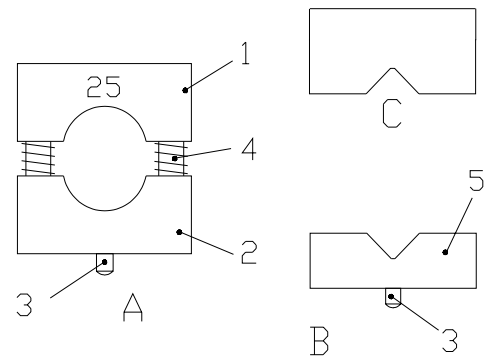

Fig. 17
To cut round specimens, the insert for round specimens (fig. 17.A) with defined diameters of 6, 15 and 25 mm (special sizes on request) or the V-insert (fig. 17.B) can be clamped into the standard specimen clamp.
- To fasten the V-distance piece (fig. 17.C) on the fixed jaw (fig. 16.2) of the standard specimen clamp, the clamping screw (fig. 16.3) must be unscrewed from the spindle. Pull the spindle off the clamp.